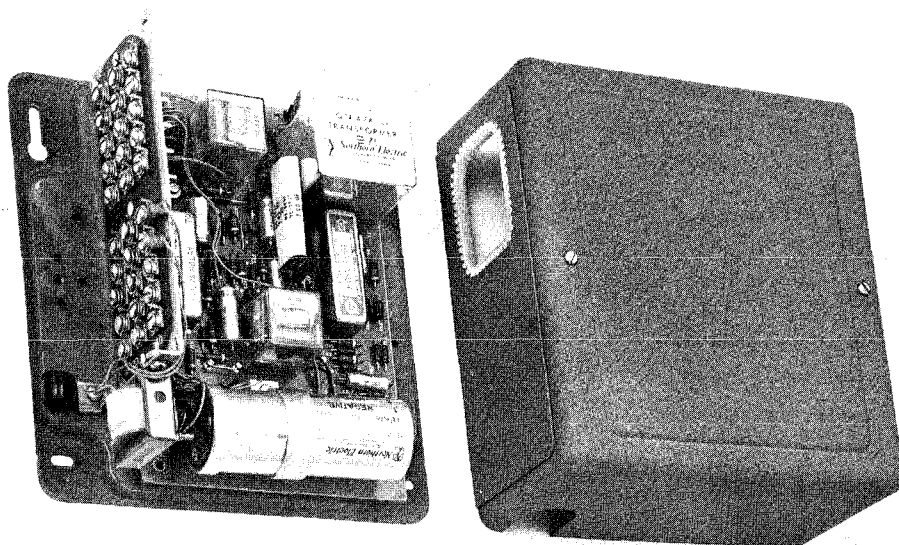

Fig. 1 — QCS1A Voice Station Coupler
2.04 The voice station coupler QCS1A (Fig. 1) is a wall mounted unit measuring $6\frac{3}{4}$ inches wide, $6\frac{5}{8}$ inches high and $3\frac{3}{8}$ inches deep. The coupler weighs approximately 3 pounds and is enclosed in a metal apparatus box. Two key hole slots at the top and two screw holes at the bottom are provided on the base for mounting the unit on a wall or other vertical surface.